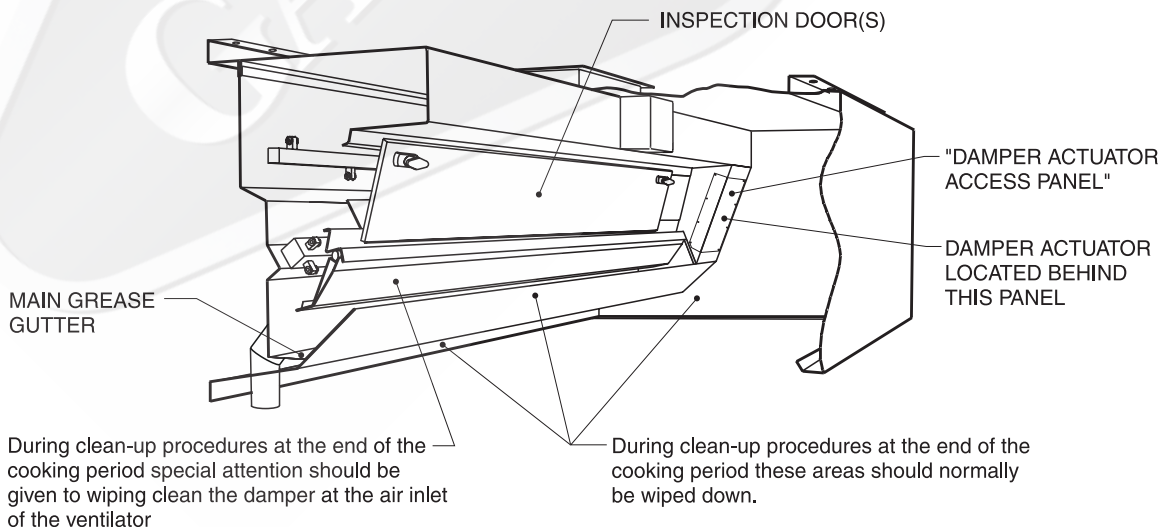

FIG. 7
After the wash cycle is completed, wipe the exposed front surface of the damper at the air inlet slot, as well as other exposed exterior surfaces. (Refer to Figure 7, Page 11).
2. At least monthly, at the conclusion of a wash cycle, open the inspection doors of the ventilator and check to ensure that the interior has been cleaned of grease, dust, and lint. (Refer to Figure 7) If overall cleaning appears to be inadequate, refer to "Trouble-Shooting of the Wash System", Page 27.